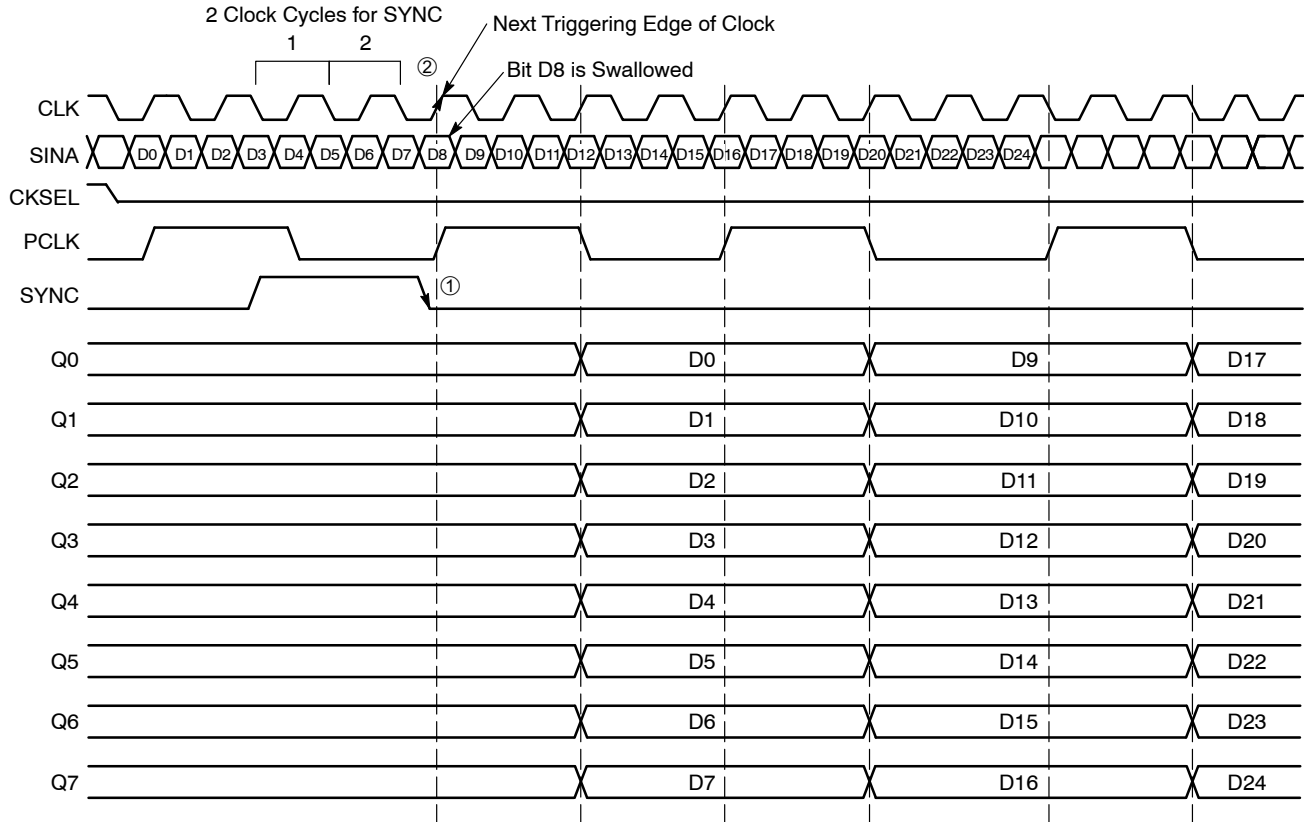
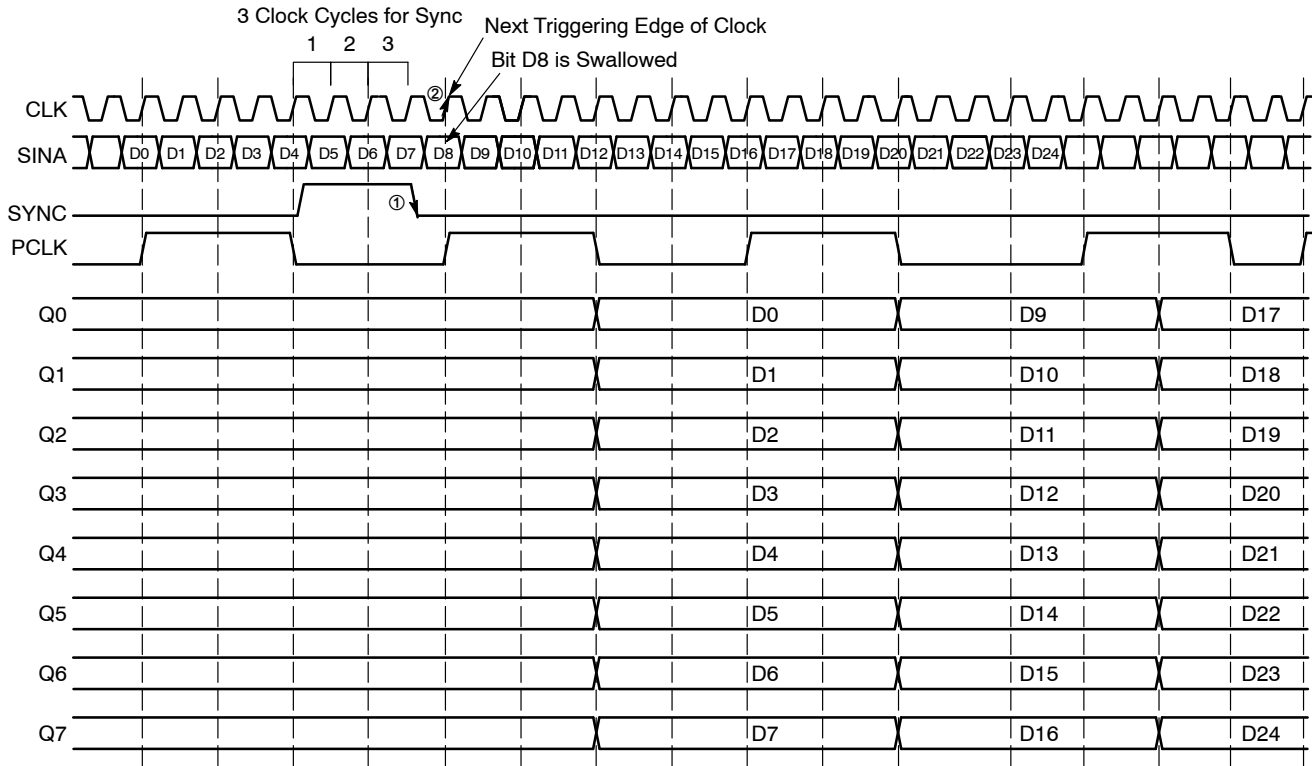

Figure 10. Timing Diagram A. 1:8 Serial to Parallel Conversion with SYNC Pulse at CKSEL LOW
Figure 11. Timing Diagram A. 1:8 Serial to Parallel Conversion with SYNC Pulse at CKSEL HIGH
To allow the user to synchronize the output byte data correctly, the start bit for conversion can be moved using the SYNC input pin (pin 2). Asynchronously asserting the SYNC pin will force the internal clock to swallow a clock pulse, effectively shifting a bit from the Q_n to the Q_{n-1} output as shown in Figure 10 and Figure 11. For CKSEL LOW, a single pulse applied asynchronously for two consecutive
clock cycles shifts the start bit for conversion from Q_n to Q_{n-1} . The bit is swallowed following the two clock cycle pulse width of SYNC① on the next triggering edge of clock② (either on the rising or the falling edge of the clock). Each additional shift requires an additional pulse to be applied to the SYNC pin. (See Figure 10)
triggering edge of clock^② (on the rising edge of the clock only). Each additional shift requires an additional pulse to be applied to the SYNC pin. (See Figure 11)